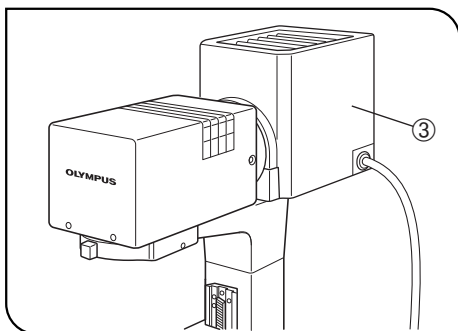

Fig. 3
10. To avoid potential shock hazards and burns when replacing the light bulb, set the main switch to "○" (OFF) then disconnect the power cord from the wall outlet in advance. Whenever you replace the bulb during use or right after use, allow the lamp housing ③ and bulb to cool before touching. (Fig. 3)